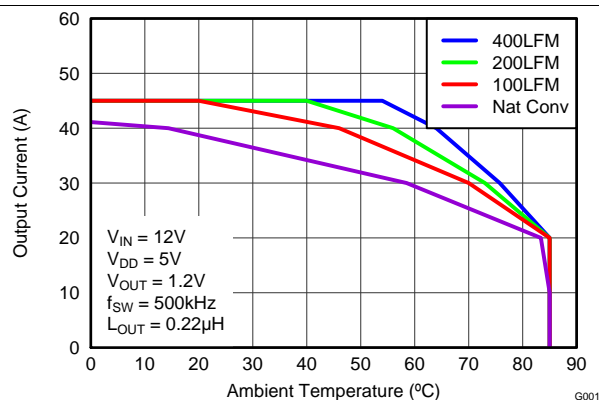
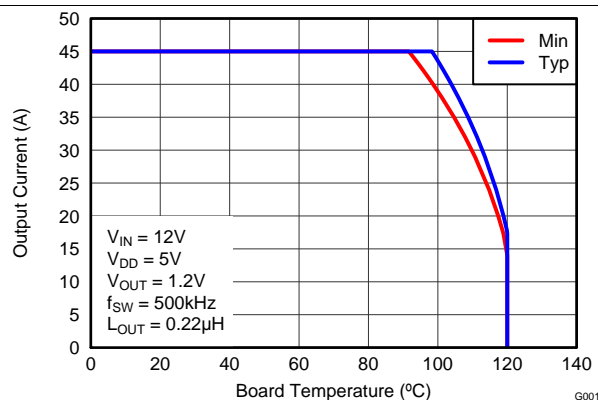

Figure 4. Safe Operating Area (SOA)– PCB Horizontal Mount⁽¹⁾
Figure 5. Typical Safe Operating Area (SOA) ⁽¹⁾
The SOA curves in the CSD95373AQ5M data sheet give engineers guidance on the temperature boundaries within an operating system by incorporating the thermal resistance and system power loss. Figure 4 and Figure 5 outline the temperature and airflow conditions required for a given load current. The area under the curve dictates the safe operating area. All the curves are based on measurements made on a PCB design with dimensions of 4" (W) × 3.5" (L) × 0.062" (T) and 6 copper layers of 1 oz. copper thickness.